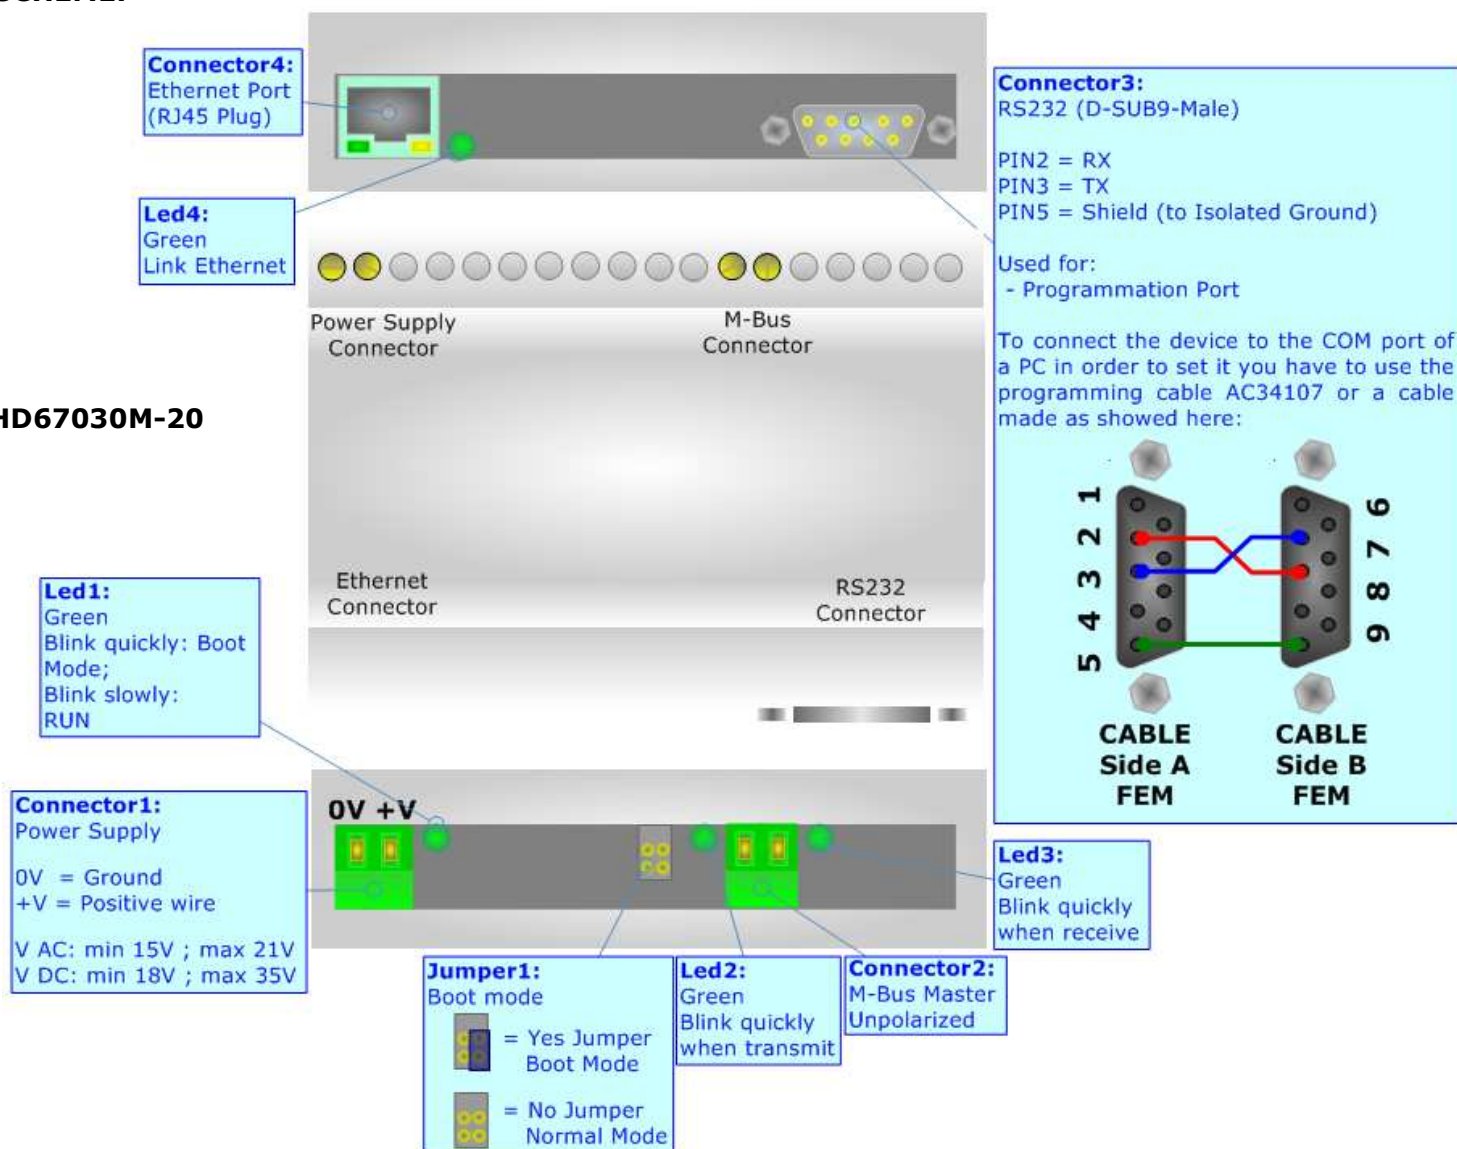
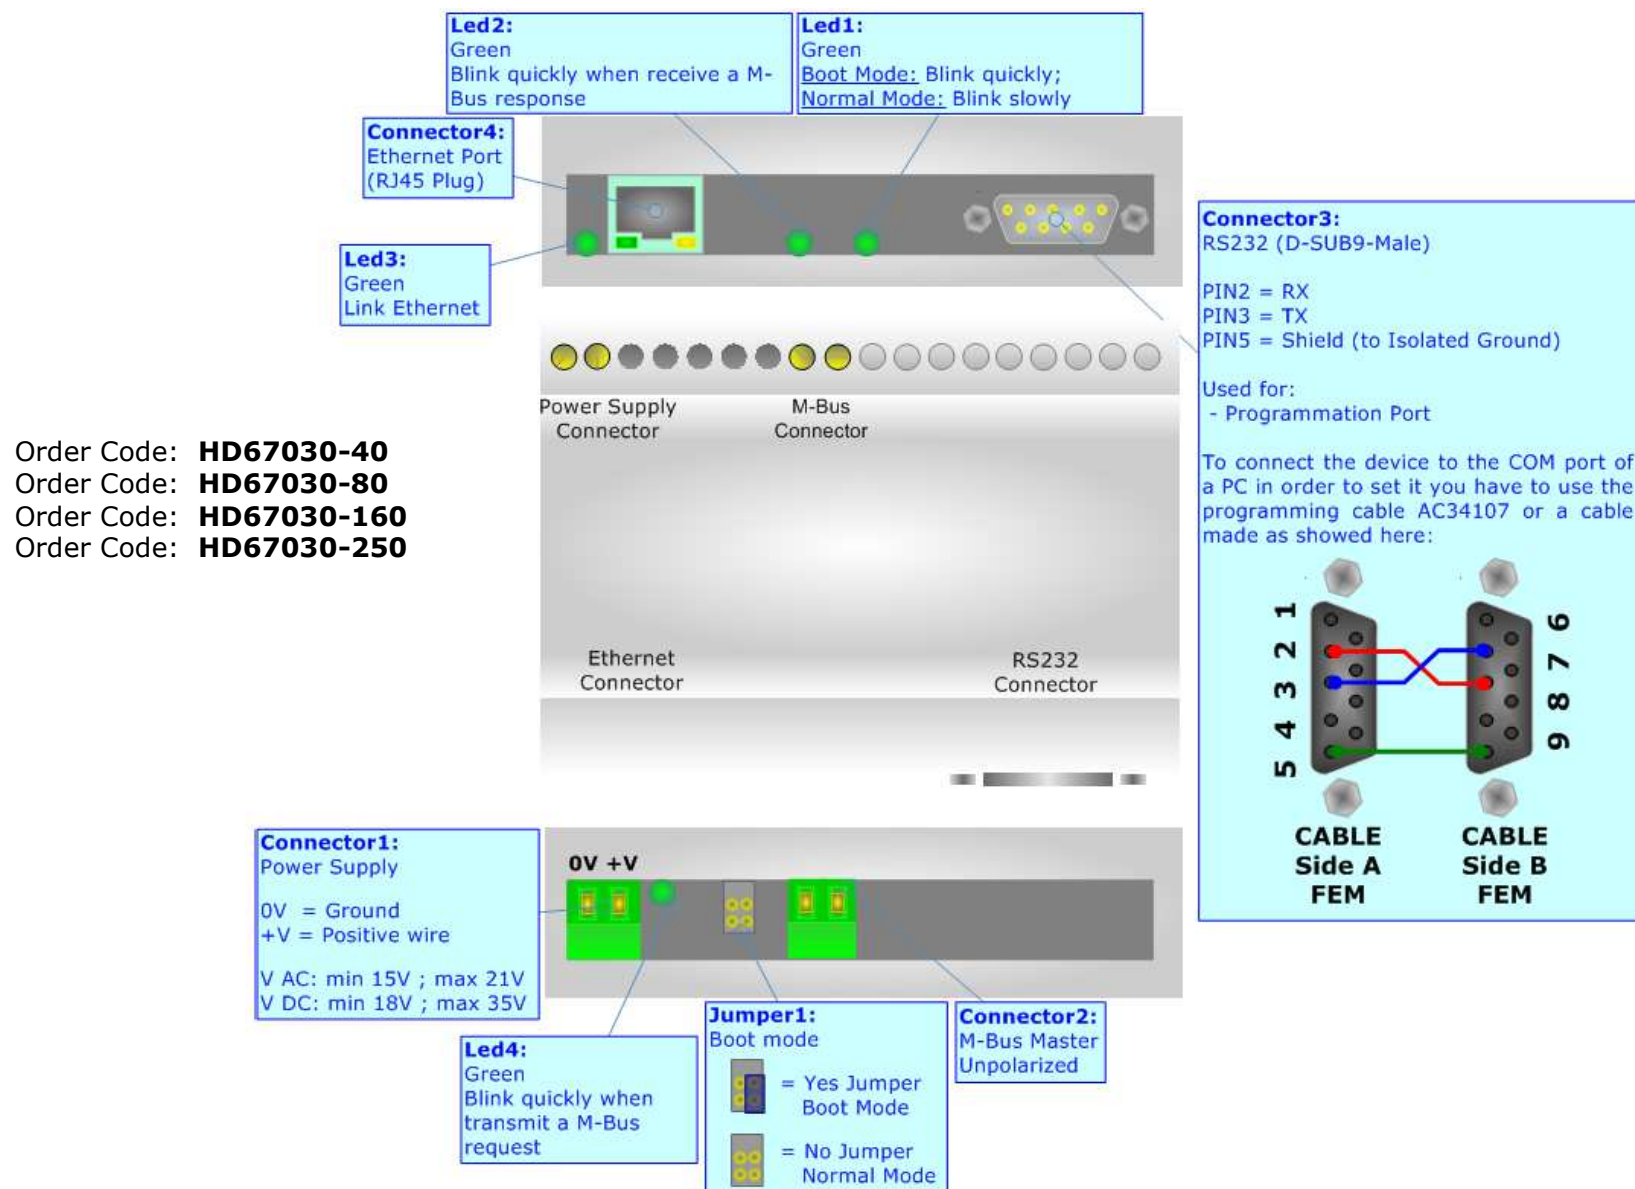

Figure 1: Connection scheme for HD67030
Figure 2: Connection scheme for HD67030-xxx
The functions described above shall be made when the device in Boot. For more details about Boot see "Connection Scheme" (Fig. 1 and Fig. 2).
- Insert the Boot Jumper (see the Fig. 1 and Fig. 2 for more info);